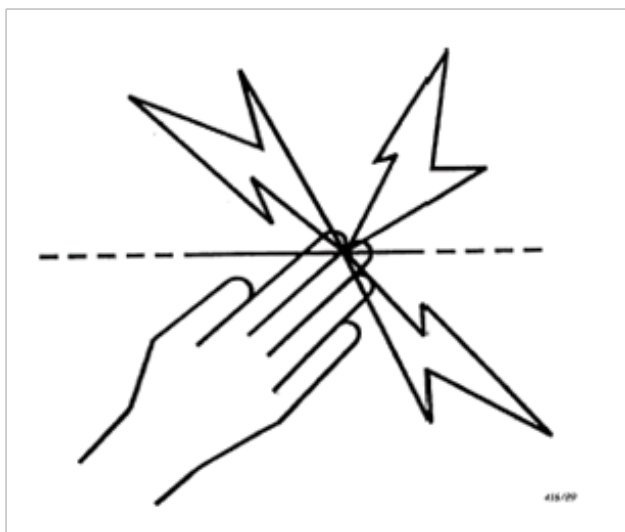

Figure 1 - Warning Plate Symbol
- a. the symbol of Figure 1, or